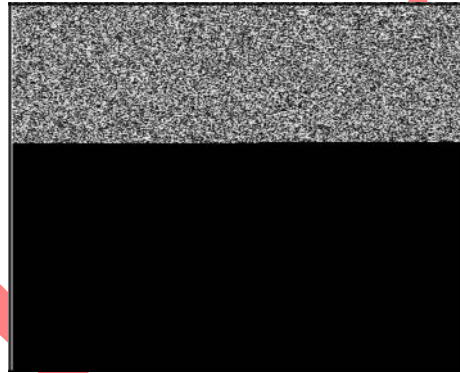

Figure 29
2. Install new gasket and adapter. Install screws (A, Figure 29) and torque to values listed in Section 12 - Engine Specifications.